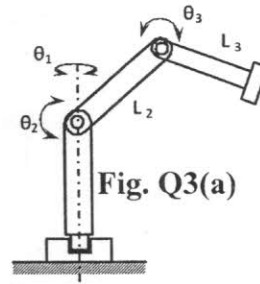

Fig. Q3(a)
3. a) Obtain the direct kinematic solution for the robot configuration shown in **Fig.Q3(a)(a)**, assuming home position, reference coordinate system and hand coordinate system as shown in **Fig. Q3(a)(b)**. Determine the position and orientation of the hand coordinate system if the joint variables are $\theta_1 = \theta_3 = \theta_4 = 0$ and $d_2 = 100$ units, $l_3 = l_4 = 100$ units, $l_1 = 100$ units.
- b) For the 3DOF articulated arm Shown in Fig. Q3(a), obtain the inverse kinematic solution if the direct kinematic solution is given by the transformation matrix T.